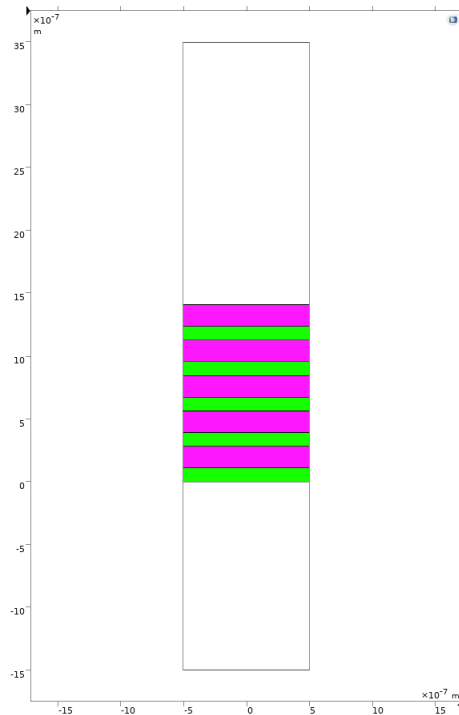

Fig. 1 Structure of a Bragg reflector. Coordinate:  $x \rightarrow$ ;  $y \uparrow$ ;  $z$  (out of paper).
- Finally, one defines the simulation domain by creating a rectangle enclosing the film stack, which will create the air domains above and below the stack at the same time. Right-click “Geometry 1” and select “Rectangle”, and under “Settings” enter the following parameters. Click “Build Selected” and then “Zoom Extents” to observe the whole geometry (as in Fig. 1, not in color though).